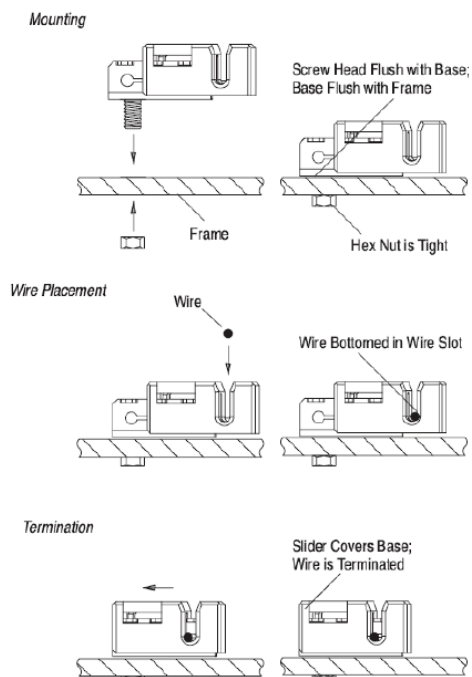

Figure 3 (Tyco Electronics Corp. 1954381-2)
### (2) Grounding Using Existing Ground Hole (Figure 3, 1954381-2)